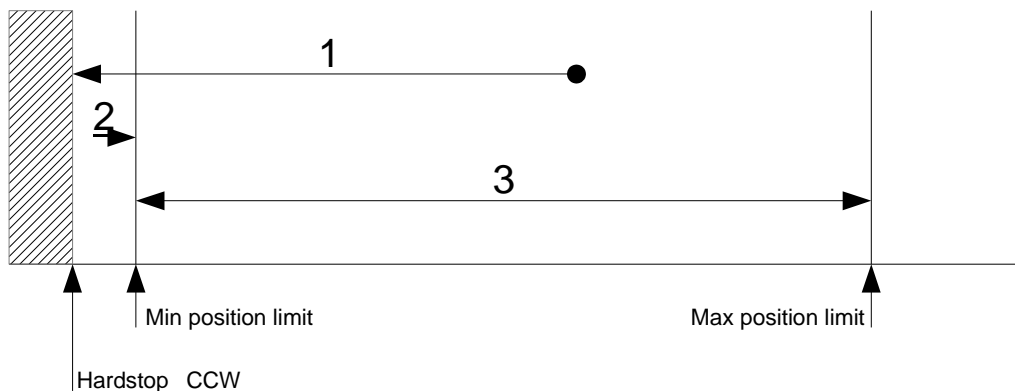

Figure 8: Single ended homing CCW
For this homing method, the motor is driving with a constant negative velocity (6099h:2) counterclockwise into a hardstop (1) as shown in Figure 8. While driving into the hardstop, the actual motor current is measured and compared with the negative current threshold (2025h:4). If the negative current threshold is reached, the motor moves back by +PositionOffset\_CCW (2025h:3) encoder steps (2). Then the motor is stopped and the actual position (6064h) is set to 0. The min position limit (607Dh:1) is also set to 0. The velocity is limited to (6099h:1). The max position limit (607Dh:2) will not be changed during this homing method and can be set before homing to limit the position range.